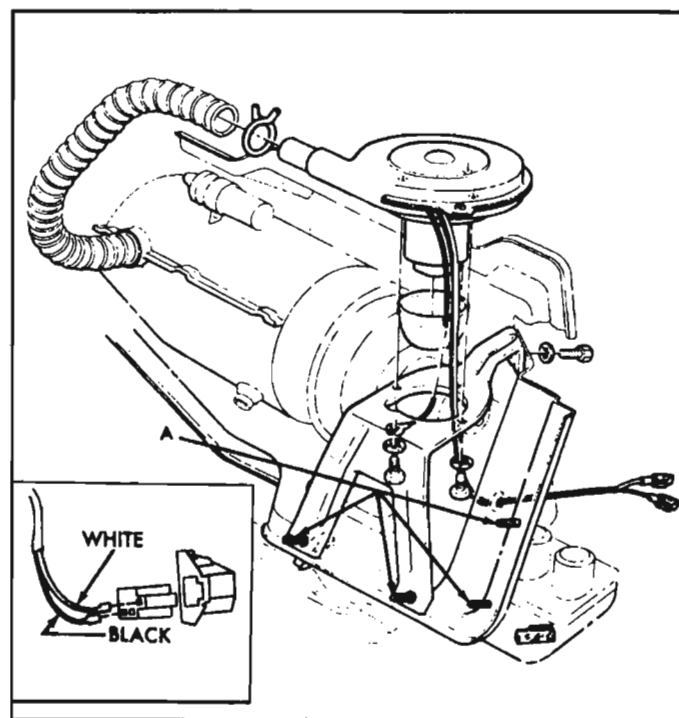

Fig. 11-33—Combustion Blower Removal
8. Through the cowl air inlet opening, remove the four heater cover stud nuts from studs "A" in Figure 11-33.
Removal (fig. 11-33)
3. Thread black and white wires through grommet in housing and reinstall in proper holes in connector. (See Figure 11-33.)